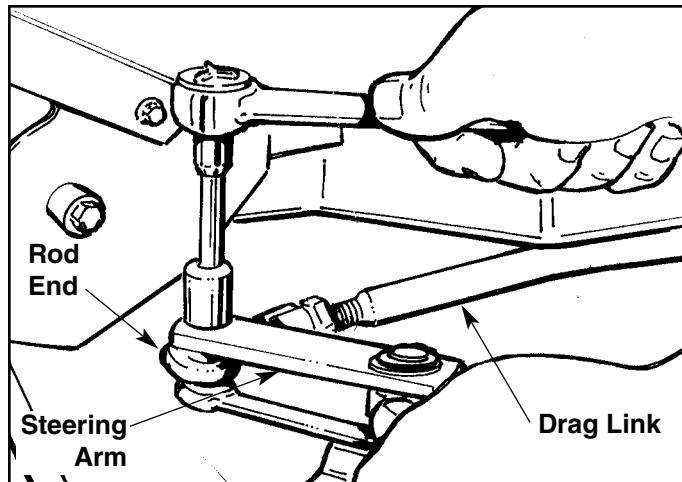

Figure A-8. Remove Rod End
- Using a 9/16" socket and 9/16" open end or box wrench, remove the capscrew/washer and flanged hex nut that secure the steering arm assembly to the rod end (Figure A-8).